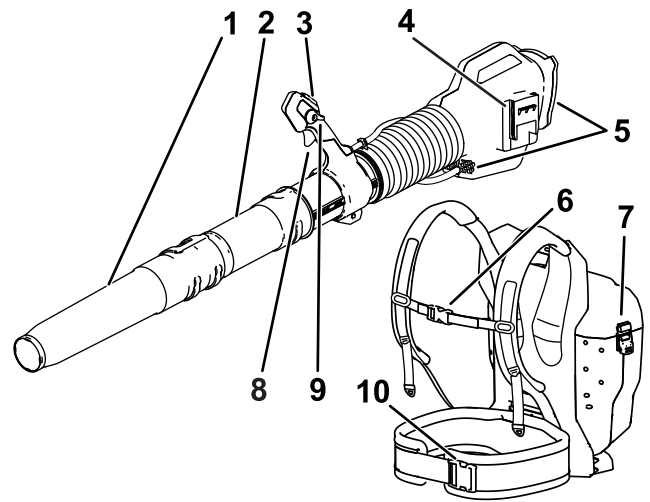

**Figure 5**
2. Press the blower latch button and push the cannon down into the backpack until it clicks into place (Figure 5).